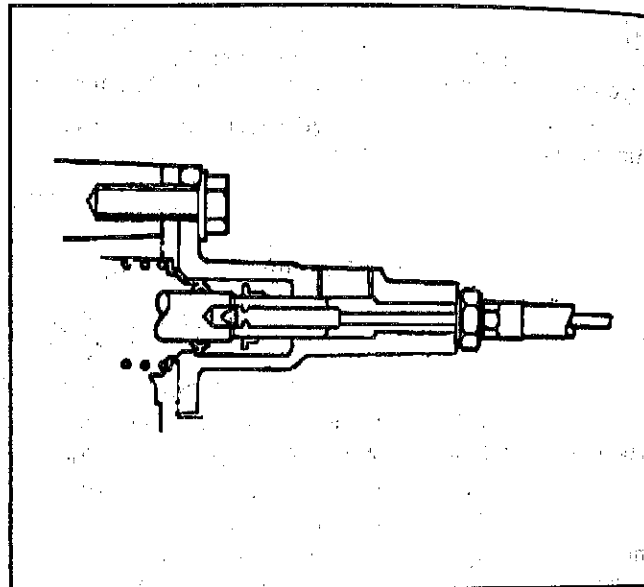

Figure 18—Shift Cable and Housing
4. Cable end from the shift fork shaft. Bend the tang of the locking spring as shown in Figure 18, then pull the cable end from the shift fork shaft.
3. Shift cable to the shift cable housing (Figure 18).